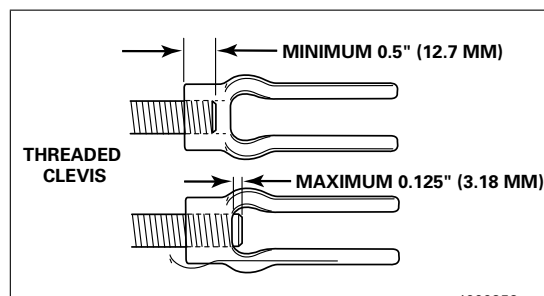

Figure 5.16
5. Verify that the thread engagement between the clevis and push rod is 0.5-0.625-inch (12.7-15.9 mm). Figure 5.16.